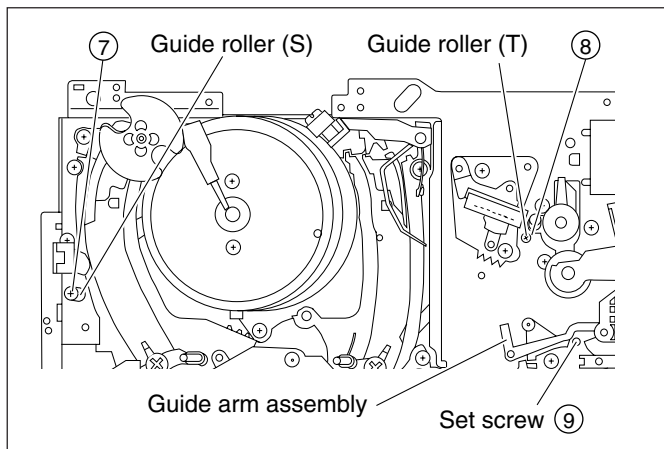

Fig. 2-5-10
(2) Guide arm assembly
- (c) Rotate the set screw ⑨ clockwise to raise the height of the guide arm assembly. (Refer to Fig. 2-5-10)
- (3) When adjusting the tape transport parts, be sure to perform the interchangeability adjustment again. (Refer to Section 2.5.1, 2.5.2 and 2.5.3.)